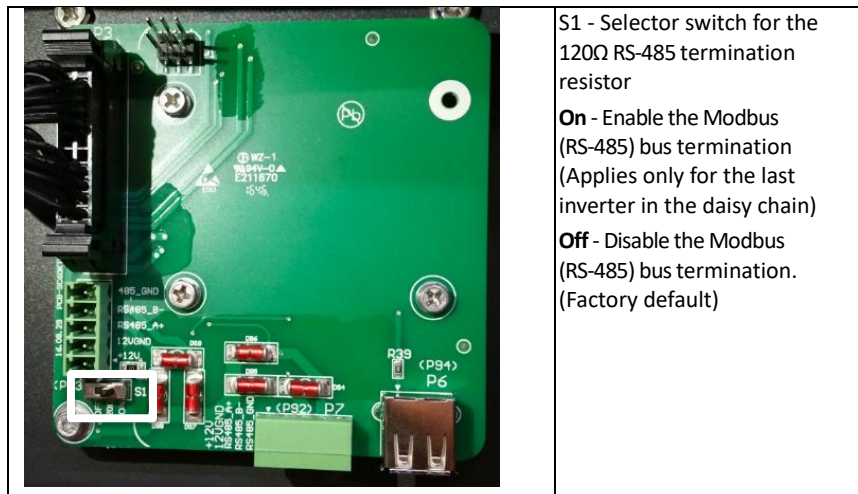

Figure 2-45 - The Modbus (RS485) Termination Switch (S1) Location and Settings on the LCD/Communication Board.
- It is important to terminate the Modbus (RS485) daisy chain correctly to minimize any bus noise and reflections. The daisy chain should be terminated at the source (the DAS) and at the last Modbus device in the daisy chain. The PVI 50-60TL Modbus termination resistor is turned on by flipping switch S1 to the ON position as shown in Figure 2-45. S1 should always be left in the off position except for the last inverter in the daisy chain.